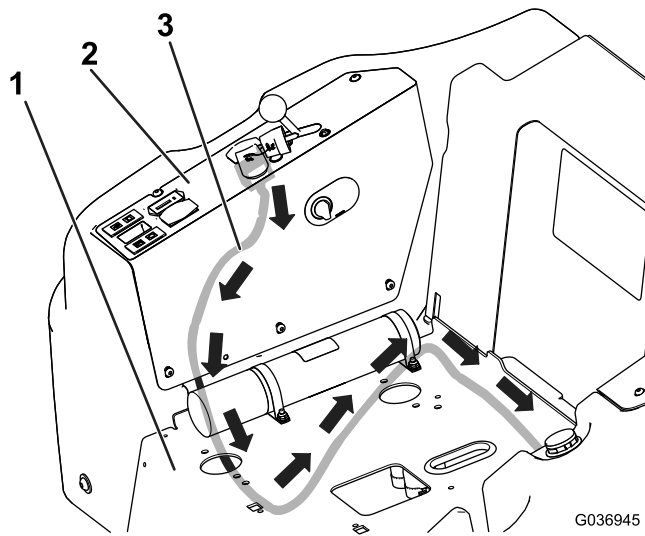

Figure 4
5. Route the wire harness under the control panel and seat plate as shown in Figure 4.